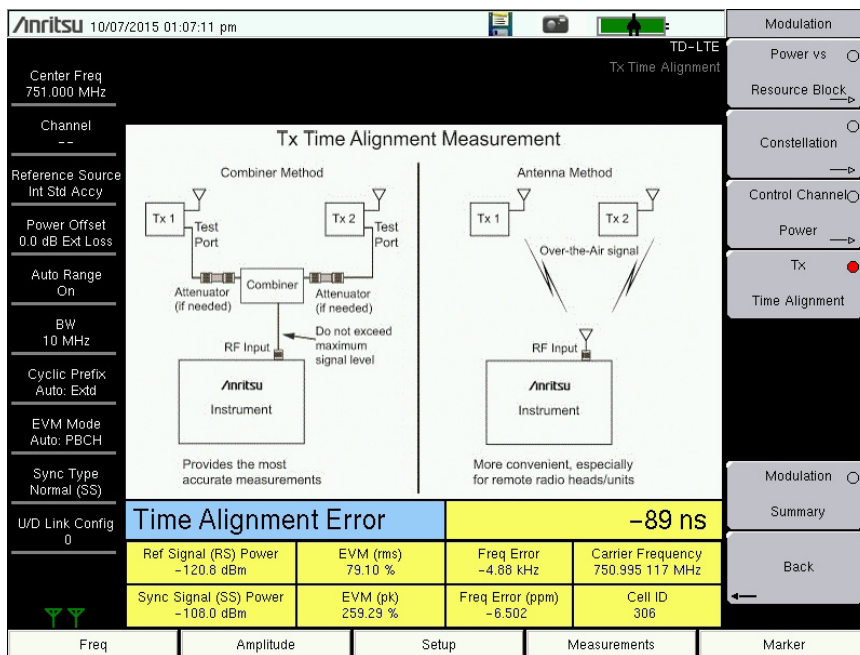

Figure 6-10. Tx Time Alignment
3. Press the Tx Time Alignment submenu key to set the modulation measurement to Tx Time Alignment view (Figure 6-10).